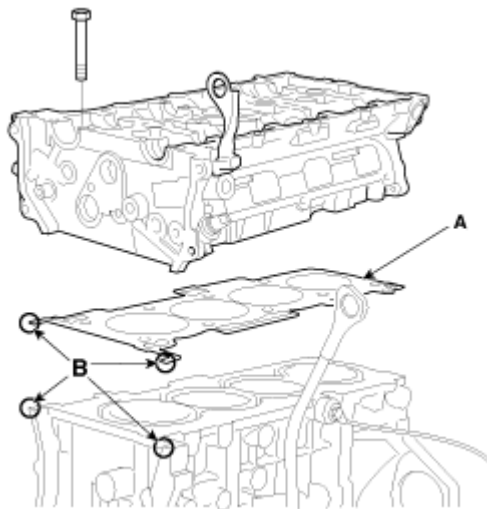

Fig. 35: Applying Liquid Gasket
- Apply liquid gasket (Loctite 5900H) on the edge of cylinder head gasket upside and downside. (At the position 'B' shown in Fig. 35)